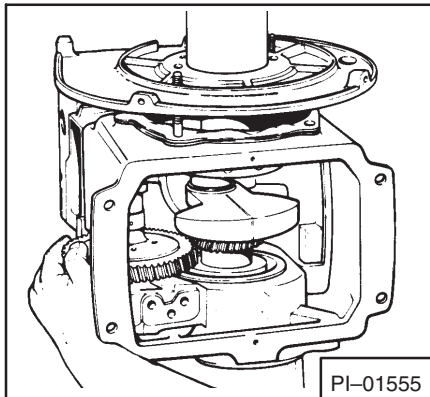

Fig. 53 Installing Bearing Plate
- a. Install gaskets with thicker gasket next to block, place bearing plate on crankshaft and carefully press plate onto shaft and into position ~~block~~ (Fig. 53). Install cap screws with copper washers and secure bearing plate to block. Draw screws up evenly to avoid distortion of bearing plate.